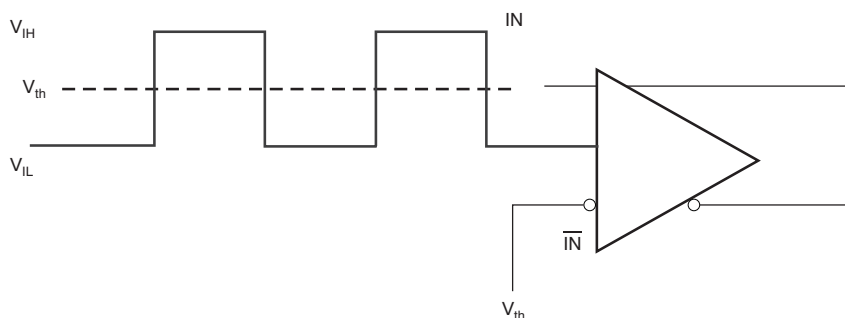
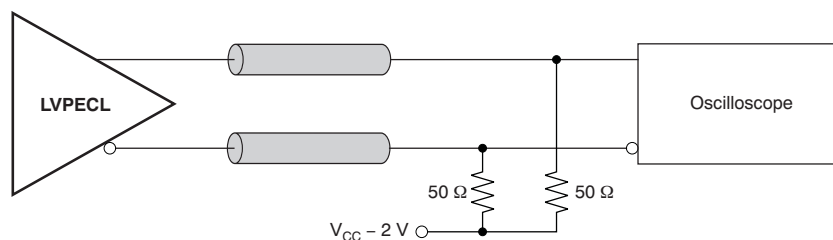
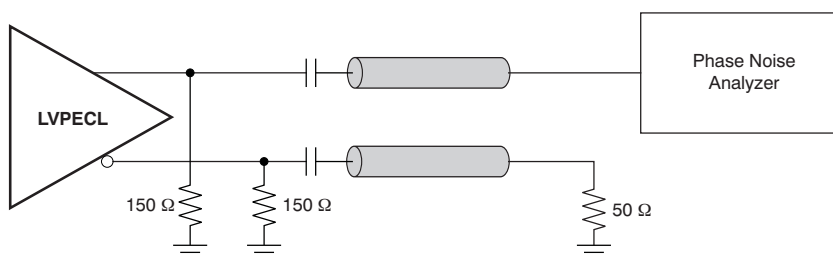

Figure 5. DC-Coupled LVCMOS Input During Device Test
Figure 10. LVPECL Output DC Configuration During Device Test
Figure 11. LVPECL Output AC Configuration During Device Test
(1) Figure 10 and Figure 11 show DC and AC test setup.
This section describes the function of each block for the CDCLVP2104. Figure 5 through Figure 11 show how the device should be set up for a variety of test configurations.